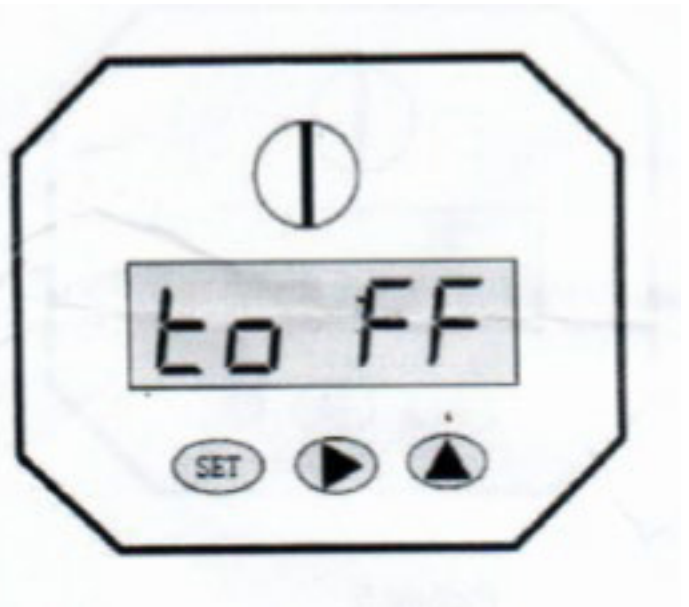

Fig. 2
4. Press the Set button and then press Set again to go to **t off**. (see Fig 2)